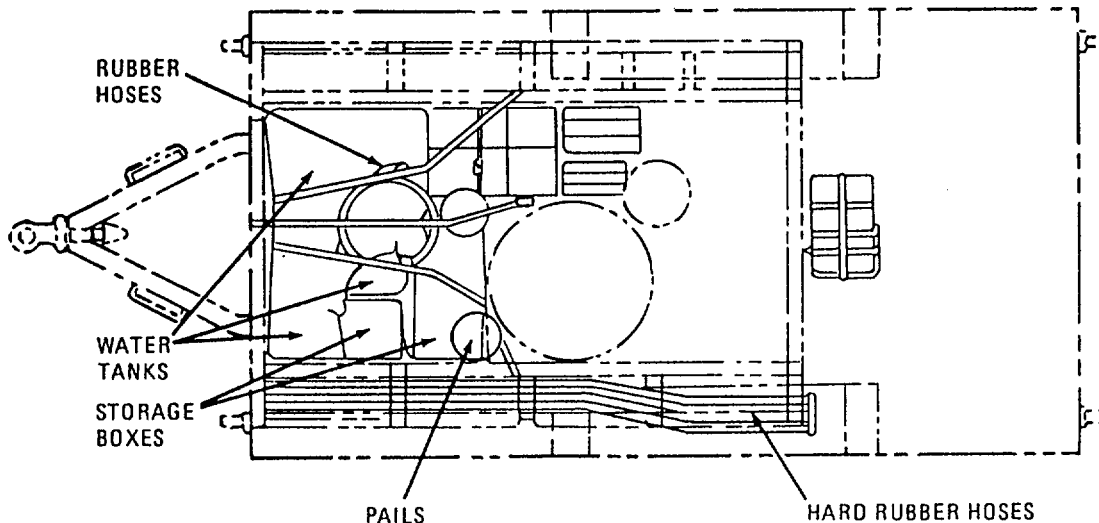

FIGURE 1-3. TOP VIEW OF ROWPU WITH OPERATING EQUIPMENT STORED (ARMY).
The Army ROWPU is 18 feet (5.5 meters) long, 8 feet (2.4 meters) high, and 8 feet (2.4 meters) wide. It weighs about 8 1/2 tons (7.71 metric tons), including the generator set. Figure 1-3 shows the ROWPU from the top with its canvas cover removed. Take a close look at how all the necessary operating equipment is stored on the trailer for transport and shipment.
a. To provide room for all operating components, material is stored in layers (figures 1-3 and 1-4). The top layer consists of rolled-up (suction) hoses on top of three folded water tanks. Stored between the tanks is a sledge hammer and a collapsed telescopic aluminum paddle. Next to the tanks is a stack of five plastic pails. On the same side of the ROWPU you will find two storage boxes fastened with a strap under the tanks. The boxes contain various chemicals, tools, and installation items. Nine sections of suction hose are stored on the side of the frame.